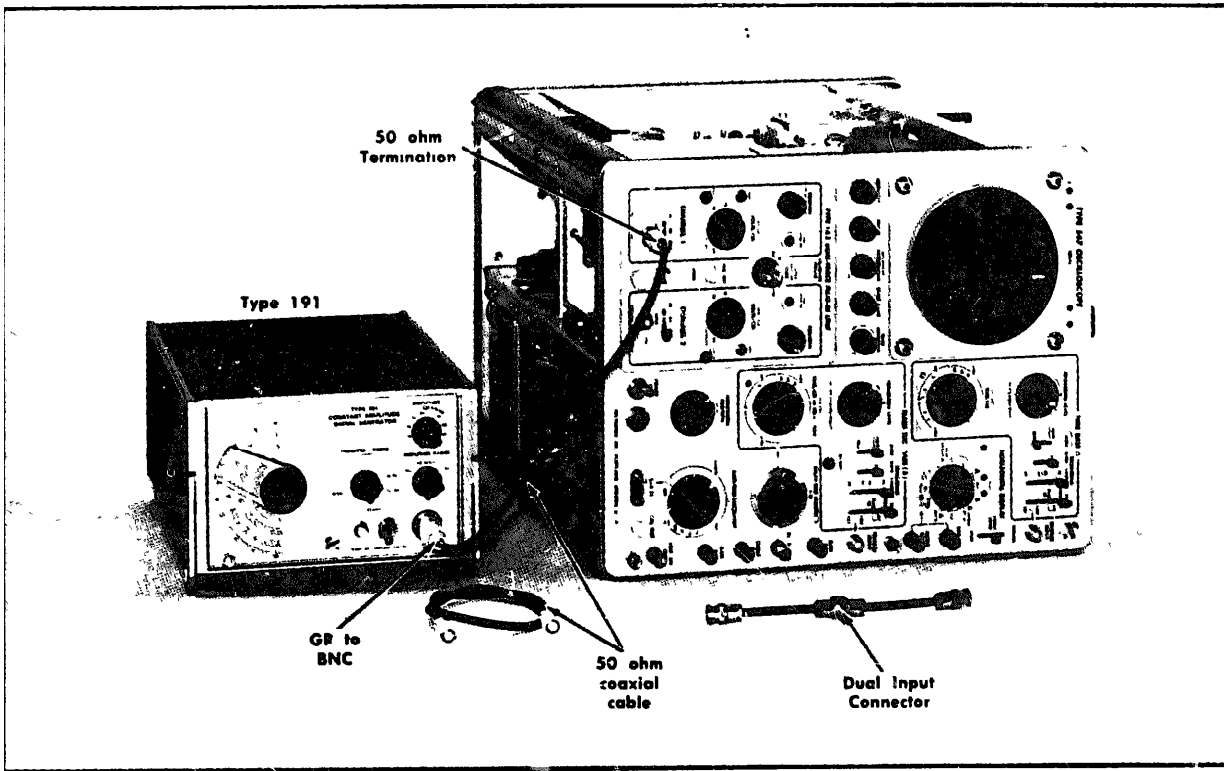

Fig 7-16. Initial equipment setup for steps 21 through 23
- a. Equipment setup is shown in Fig 7-16